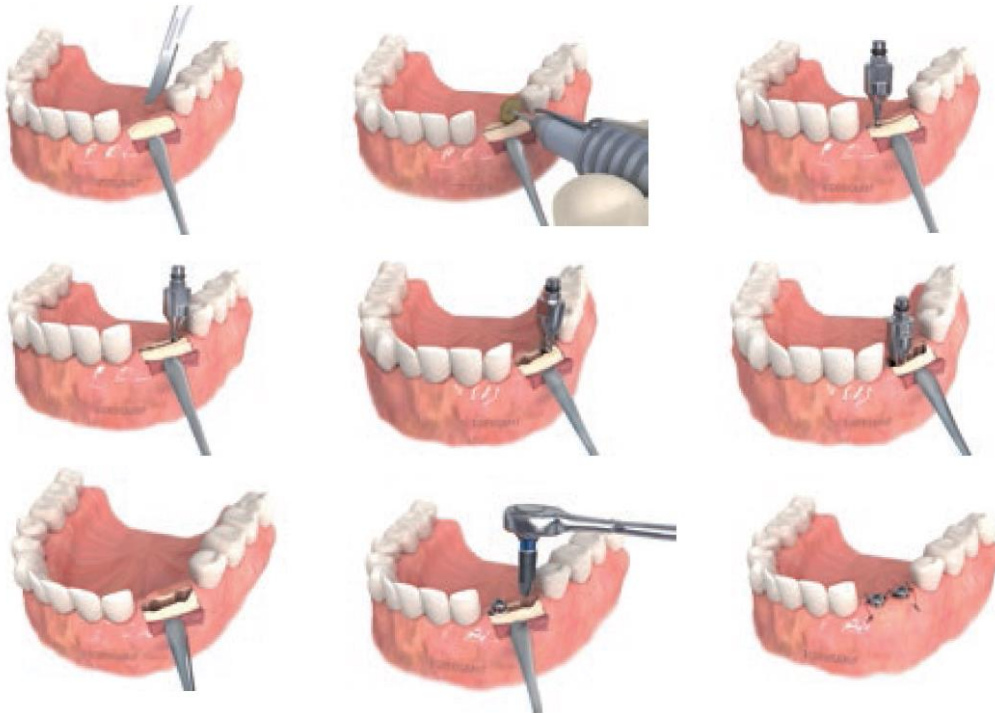

Figure 2: Main steps in the sequence of using the expanders for the “Cortical Split” performance.
B) Instructions for use. Cortical Split with expanders (Figure 2):